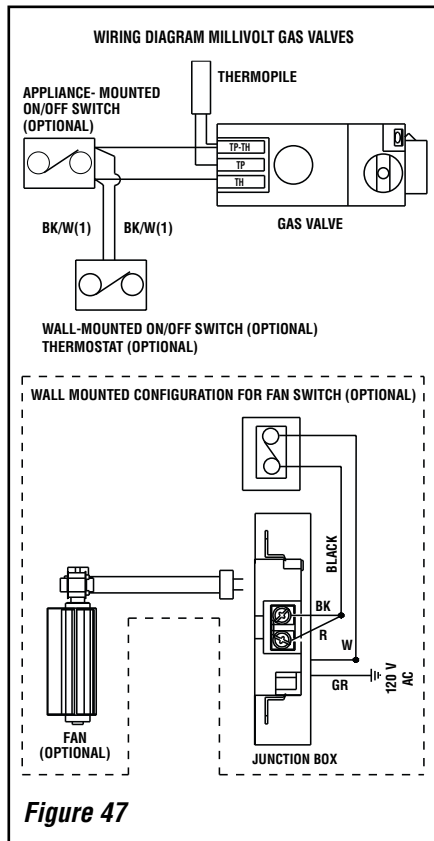

Figure 47
**A. Millivolt Wiring (see Figure 47)**
With gas line installed, run initial system checkout before closing up the front of the unit. Follow the pilot lighting instructions provided in the *Care and Operation Instructions*. For piezo igniter location on millivolt appliances, see **Figure 47 on Page 25**.